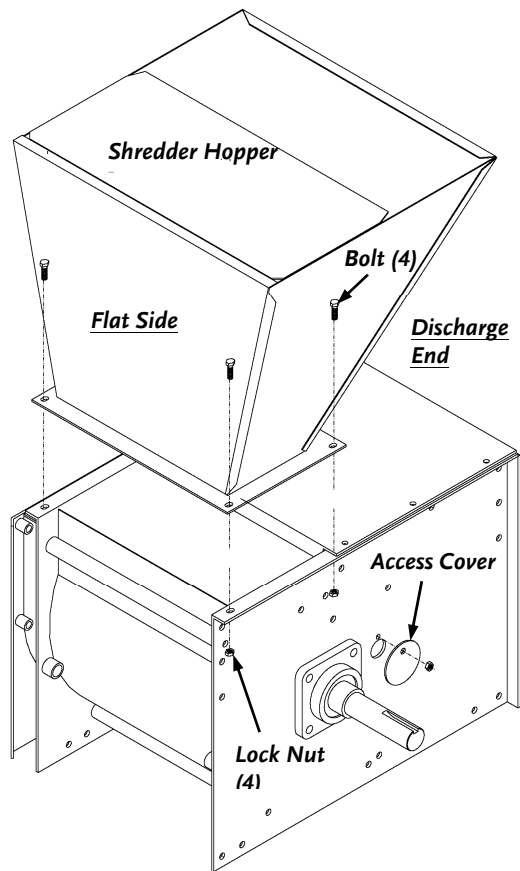

Figure 5
1. Place Shredder Hopper onto the machine in the configuration shown. (**Figure 5**).
2. Using 1/2" Wrenches, Secure with four 5/16"-18 x 3/4" Bolts and Locknuts as shown (**Figure 5**).